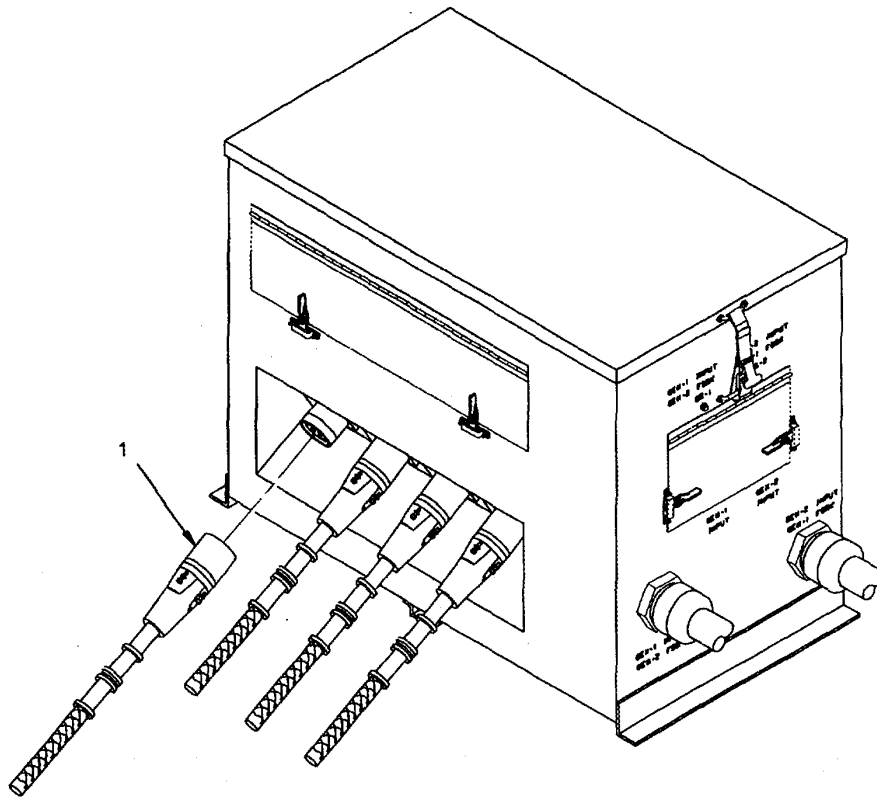

Figure 2-6. Connecting Load Cables.
2.3.4.1. Power Plant. Load can be connected to the switch box using any combination of connectors, J1 through J4, figure 2-6. The paralleling cable is already connected between the generators.
- b. Connect the plug end of cable (1) to the desired connector of the switch box.